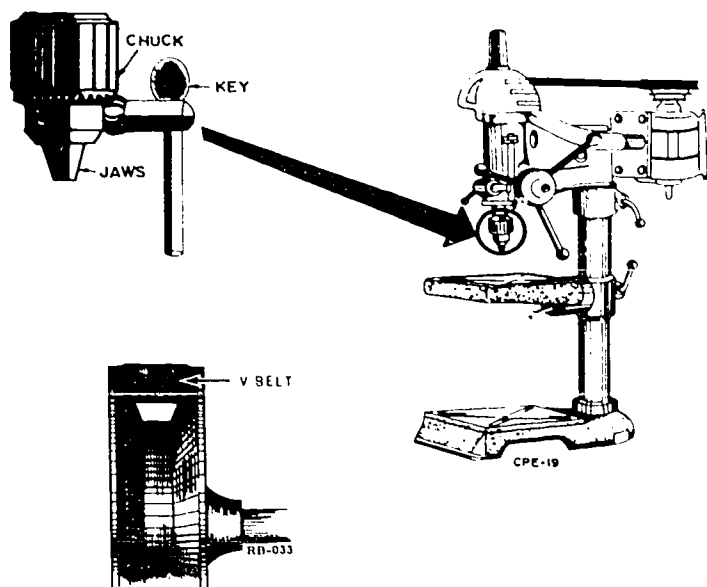

Figure 2-7. Drill press.
**Drill Press.** The drill press is a precision machine used for drilling holes that require a high degree of accuracy. It serves as an accurate means of locating and maintaining the direction of a hole that is to be drilled, and it provides the operator with a feed control lever to regulate the drilling pressure and make the task of feeding the drill into the material easier. A variety of drill presses are available; however, the most common type is the ordinary upright drill press, shown in figure 2-7.
When using a drill press, adjust the height of the working table to accommodate the height and thickness of the part to be drilled; then clamp the material into position so that the center punchmark is directly in line with the twist drill. Material or parts that are not properly clamped may bind on the drill and start spinning, which can possibly cause the loss of fingers or hands or cause serious cuts to the operator's arms or body. Always make sure the part to be drilled is properly clamped to the drill press table before starting drilling operations. You must wear goggles, safety glasses, or a face shield in accordance with the safety rules of your shop. While we are on safety, there is one unsafe act that has been with us for years, but now you see it in writing. *Don't leave the chuck key in the chuck*, as shown in the insert in figure 2-7. It is a safety hazard. Remove it before someone turns on the drill press and gets injured!
Most drill presses are equipped with gears or multistep pulleys to provide a means of increasing or decreasing the speed of the spindle. The drill press shown in figure 2-7 is illustrated with the belt guard removed. The drill press can be adjusted for different spindle speeds by changing the V-belt to different steps on the V-pulleys. Be sure to stop the motor before moving the belt from one step to another, and don't forget to check the belt adjustment before operating the drill press.
**Installing V-belts.** To obtain adequate power, V-belts must be of the correct size for the pulleys, and they must be adjusted and installed properly. There are many sizes of V-belts. For maximum power, the belt must fit the pulleys as shown in figure 2-7. Make sure that the belt matches the pulley so that it will not ride the bottom of the sheave grooves. The sides of the belt pulling against the pulley provide the traction. Another important factor to consider is to select a belt so that the motor will be as close to the machine as practical. This will prevent some power loss. To obtain efficient operation, the tension of V-belts must be adjusted properly. As a general rule, allow 3/4 inch of sag for each foot of distance between pulley centers when you apply thumb pressure to the belt.
Preventive maintenance procedures for a drill press consist mainly of keeping it cleaned, adequately lubricated, and properly adjusted. Like other machines in the sheet metal shop, the drill press should have a maintenance record folder which specifies the items to be inspected and serviced, the intervals of inspection, and a place to record and initial the maintenance accomplished. A drill press, such as that illustrated in figure 2-7, should be inspected. Be sure that the belt guard is installed, that the V-belt has the correct tension, that the machine is clean, and that all parts operate and are serviceable. The motor of the drill press illustrated has sealed bearings and does not require oiling; however, the spindle and the depth adjustment feed handle have oil cups for lubrication. Lubricate the support column with an oiled rag to prevent corrosion and to allow the working table and head assembly to move up and down freely.